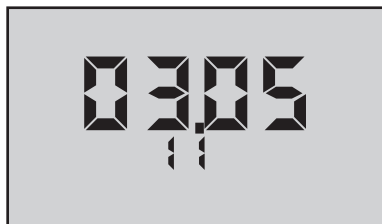

Figure 12
Example shown in Figure 12 is in US format, i.e., mo/dy/yr.
2. Press  $\frac{\text{MR}}{\blacktriangledown}$  repeatedly until the date is displayed (scrolling through stored readings, PC OFF, CLR ALL and time to the date, e.g., “03.05.11” (Figure 12), March 5, 2011).